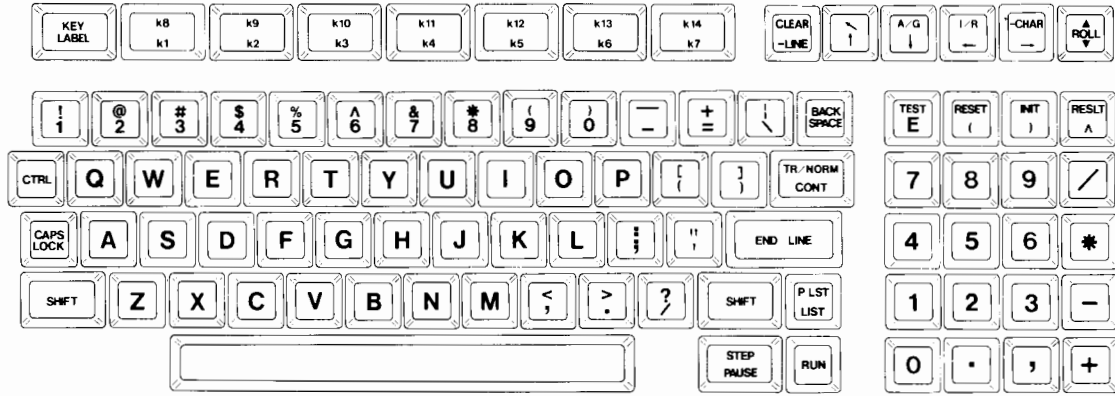

Figure 3-7. HP-87 Keyboard
- d. Install the new key cap by pressing it firmly into place. It is a press fit; it will not snap. If you have removed several key caps, see figure 3-7 for the correct key positions.